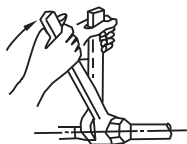

Fig.8-3
- Put the connecting tubing at the proper position, wrench the nuts with hands then fasten it with a wrench. (Refer to Fig.8-3)